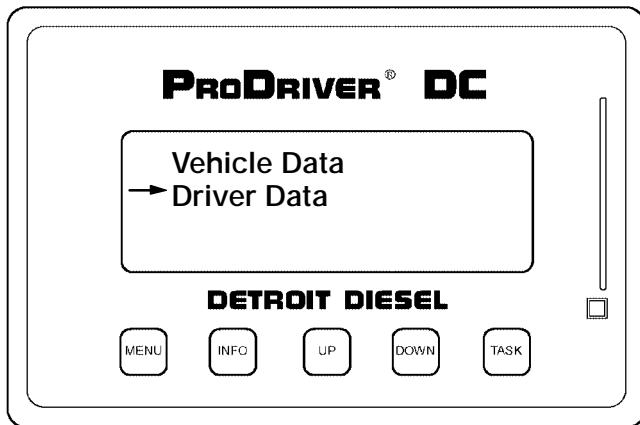

Figure 5-9 Vehicle and Driver Data Screen
- Driver Data, **[INFO]** (see Figure 5-9) .